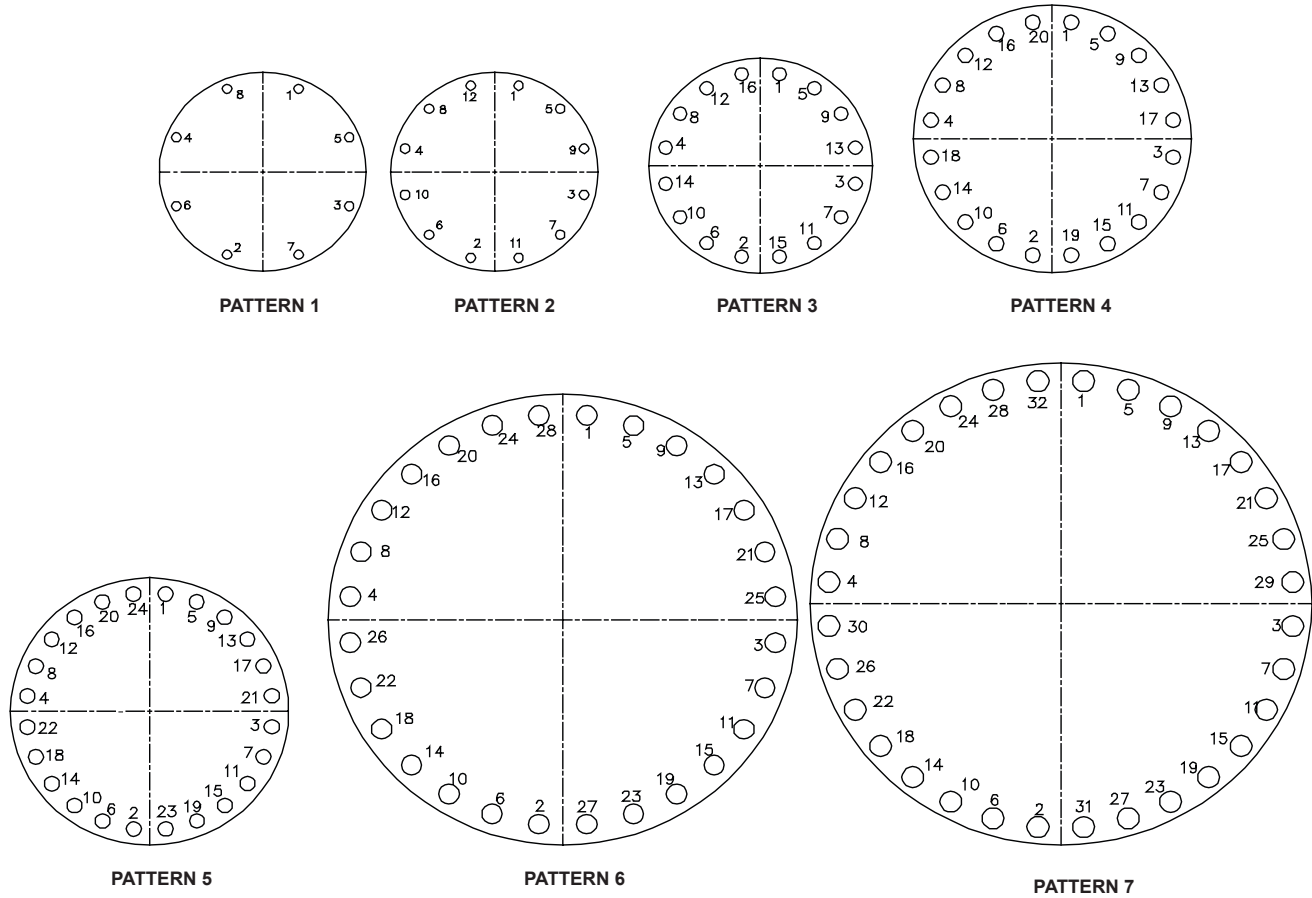

Figure 4. Flange Pattern Tightening Sequence
2. See Figure 4.
4. Tighten the nuts to the torque values shown in Table 5 following the designated sequence, repeating the sequence as shown. Flange pattern tightening sequences are shown in Figure 4.